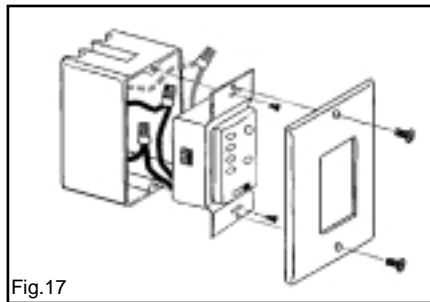

Fig.17
**Step 3.**(Fig. 17). Carefully tuck the wire connectors inside the junction box. Secure the wall transmitter with the two screws provided. Attach the wall plate over the wall transmitter and secure with the two screws provided.